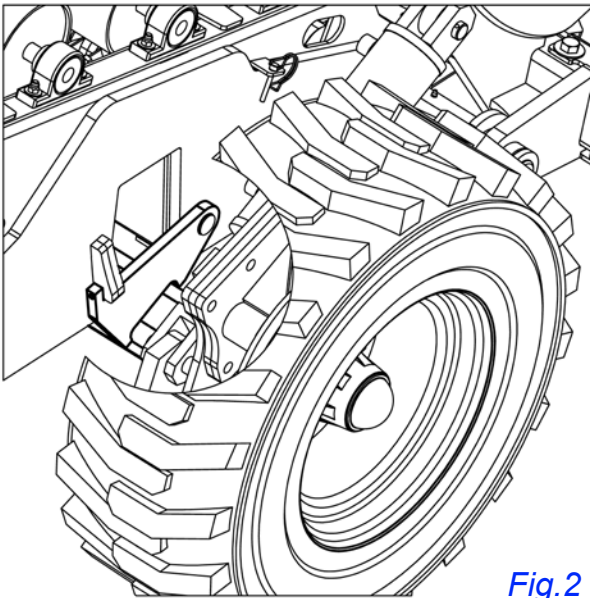

Fig.2
- Raise rear axle until tube fully contacts transport lock. See Fig.2.